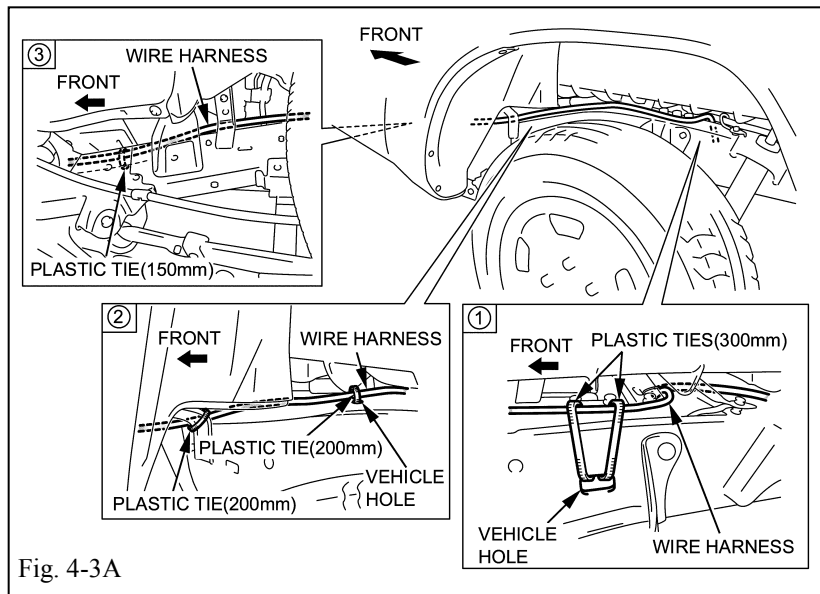
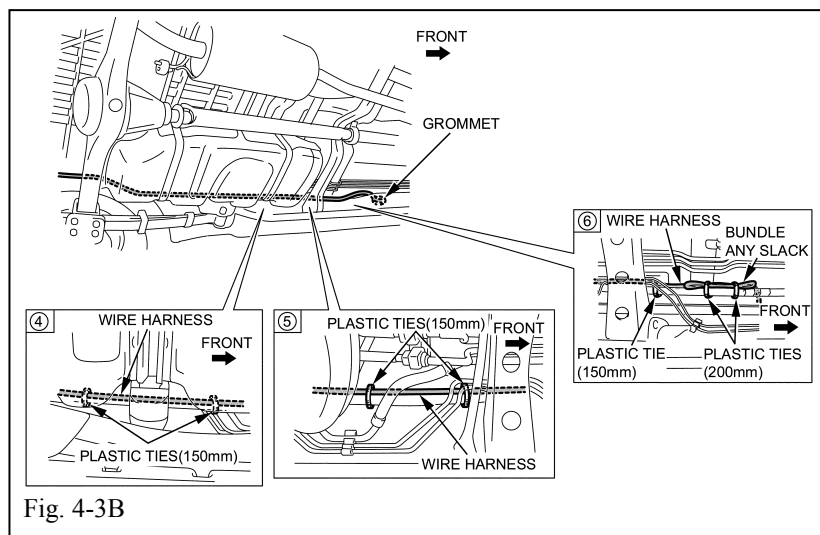

Fig. 4-3A
Fig. 4-3B
- (1) Secure the wire harness so that it does not interfere with the brake line, fuel line, and others. Use the correct amount of ties as listed in the tables below. (Fig. 4-3A) (Fig. 4-3B)